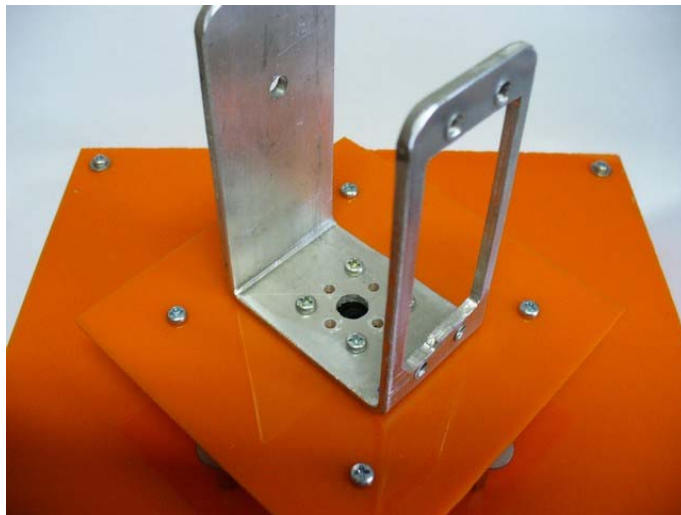

Figure 16 The horn set piece of the servo motor #1 is inserted to its motor.
6. Center the servo motor #1 before installing the horn set piece. Insert four pairs of nuts and bolts at the corners of the rotation plate, and a screw at the center of the Servo Motor #1 as shown in Figure 16.